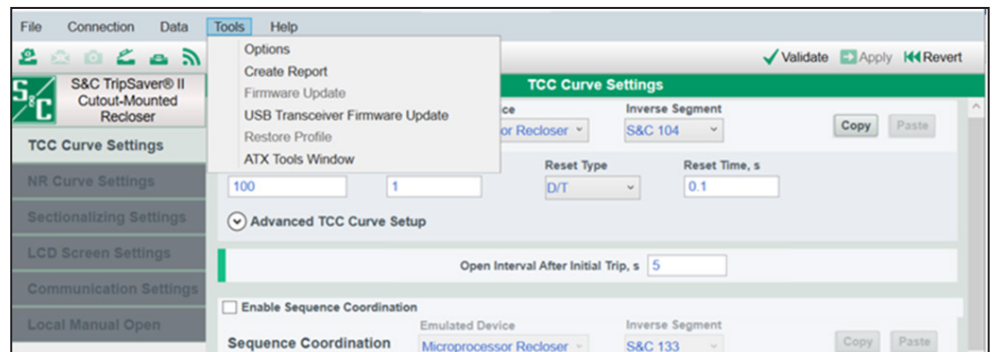

Figure 58. USB Transceiver Firmware Update menu item under the Tools menu.
- STEP 2.** Select the **Tools>USB Transceiver Firmware Update** option from the **Main** menu. See Figure 58.